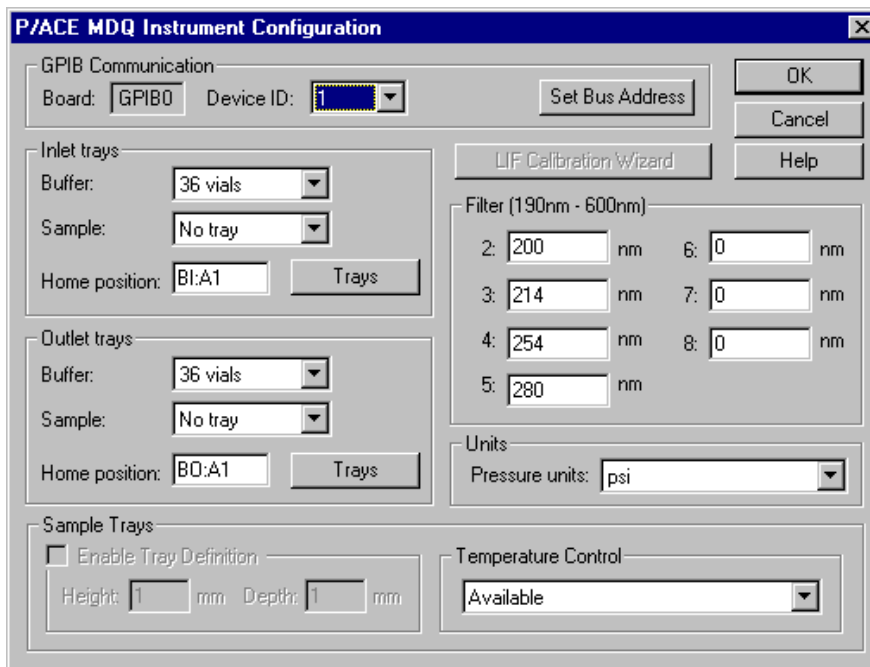

Figure 4.23 Configuration Dialog Box
19. From the Instrument screen **File Menu**, select **Configuration**. The 32 Karat Software Configuration dialog box appears as shown in Figure 4.23.